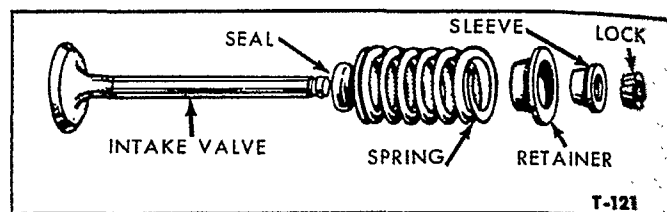
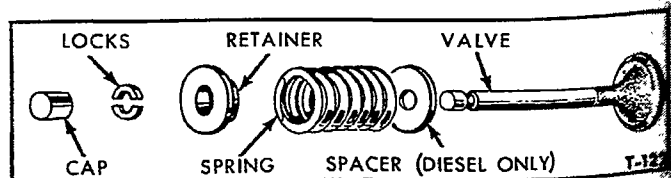

Figure 26—Intake Valve Assembly
Figure 27—Exhaust Valve Assembly
7. Install the spring retainer sleeve as shown in Figure 26 on the intake valves. Install the spring retainer as shown in Figure 27, on the exhaust valves. Compress the spring with Valve Spring Compressor 6513-EE and install the valve locks, Figure 12.